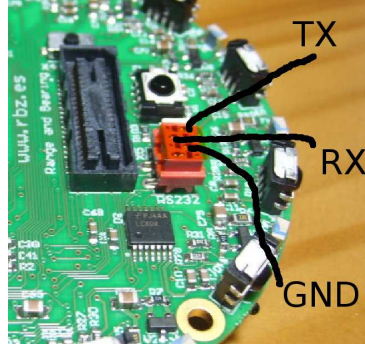

Figure 7: UART connector.
PC). You are able to extract the signals from PIN1 (TX), PIN2 (RX) and PIN3 (GND), from the X5 4 pins micromatch red connector (see Figure 7).